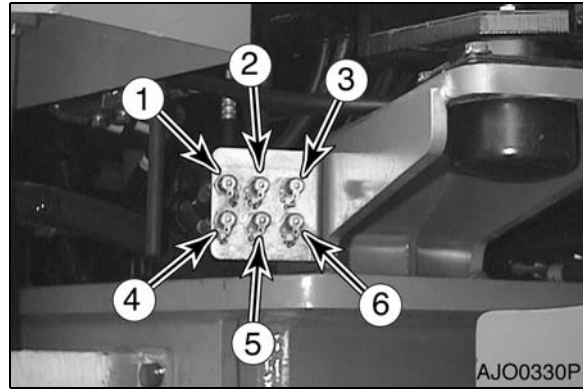

Figure 102
Hydraulic pressure for most systems can be checked by using the remote test ports shown in (Figure 102).
1. Attach gauge to port (1, Figure 102).
1. Attach gage to port (2, Figure 102).
1. Attach gauge to port (3, Figure 102).
1. Attach gauge to port (4, Figure 102).
1. Attach gauge to port (5, Figure 102).
1. Attach gauge to port (6, Figure 102).